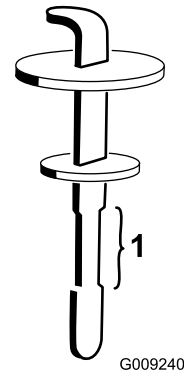

Figure 87
4. Remove the dipstick from the filler neck and wipe it with a clean rag. Insert the dipstick into the filler neck; then remove it and check the fluid level. The fluid level should be within the safe operating range on the dipstick (Figure 87).